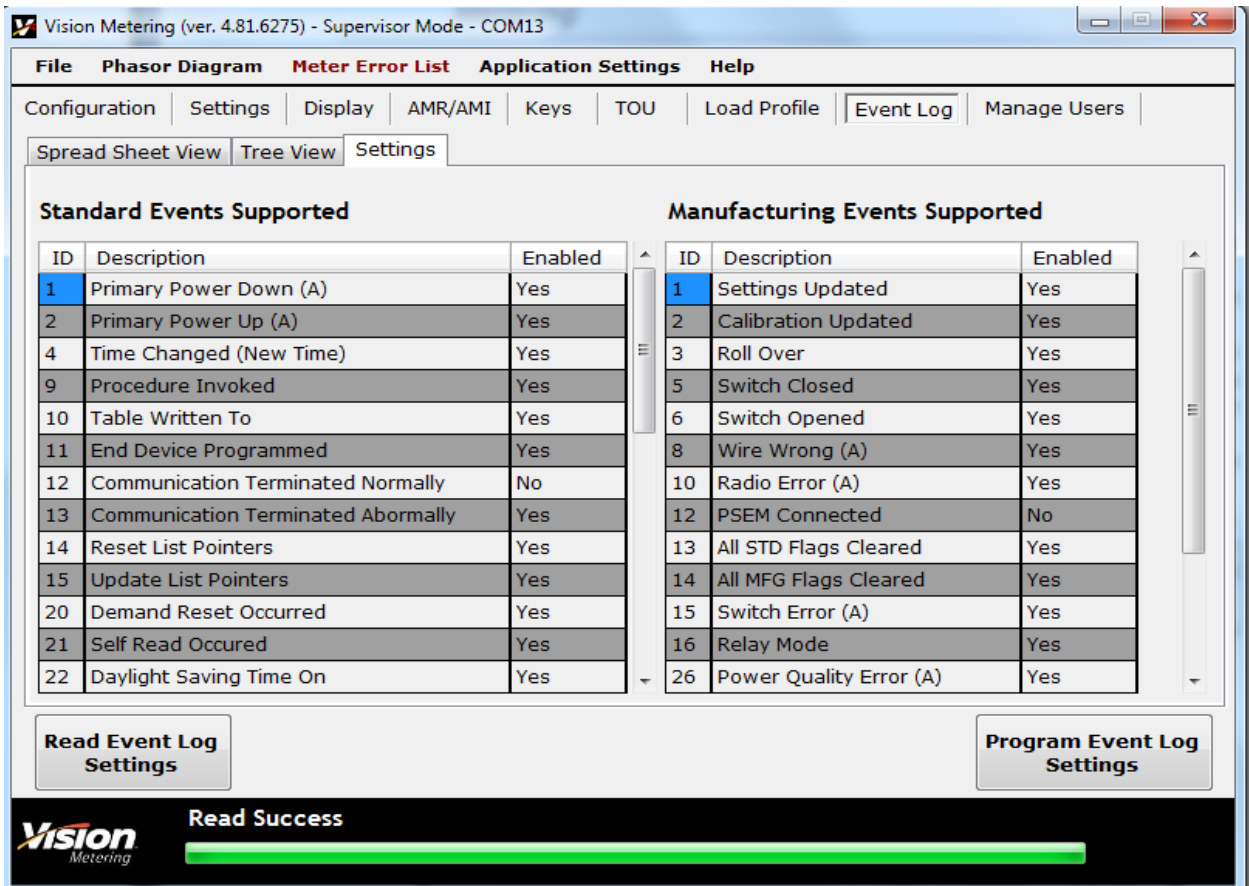

Figure 36
- The **Settings** tab displays the current event settings from the meter. Here as shown in **Figure 36**, it is possible to enable or disable standard and manufacturing events to be recorded. This is accomplished by clicking on the enabled field for each event. This will toggle the selection between **Yes** and **No**
From the screen in **Figure 36**, it is possible to also reset the event log by clicking on the **Reset Event Log** button. The event log may be saved (in .csv format) by checking the box for Save Read Event Log.